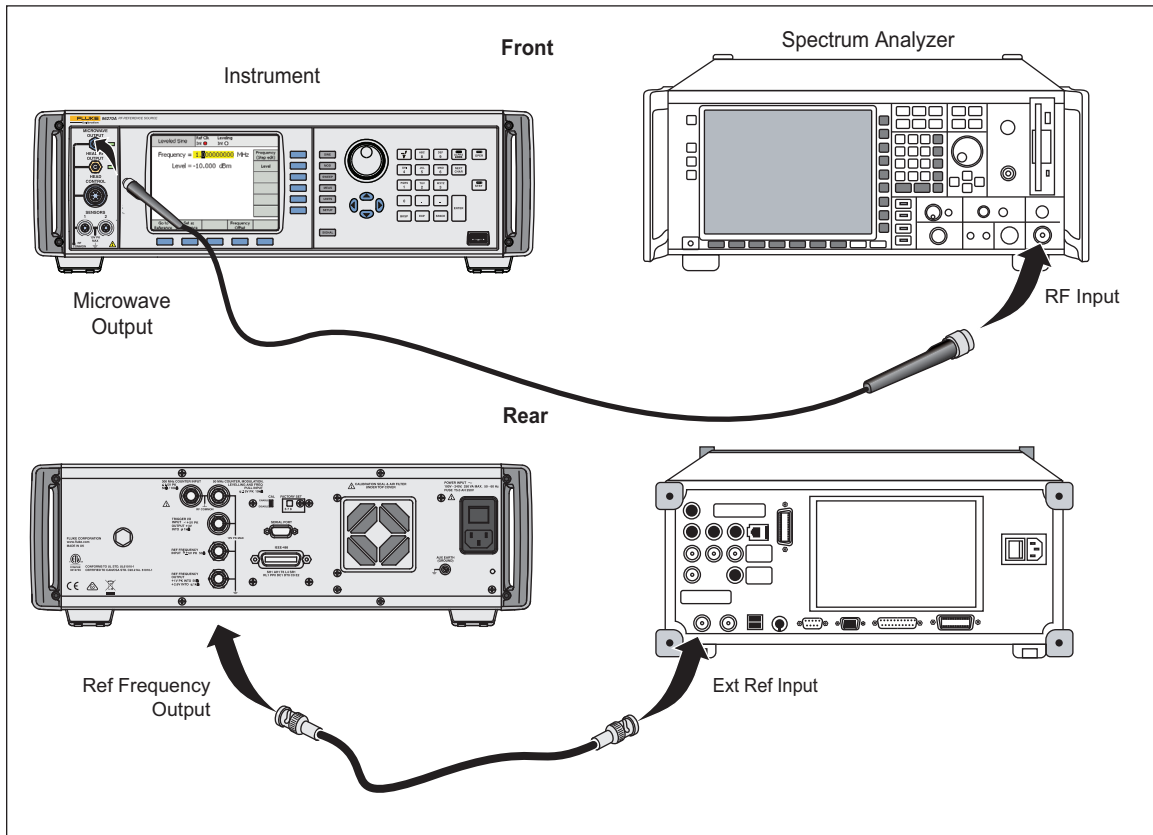

Figure 3-17. Microwave Output Level Accuracy Tests, Low-level Points (Low-level Microwave Output option only)
19. Connect the UUT Microwave Output to the RF INPUT of the Spectrum Analyzer/Measuring Receiver and connect the REF FREQUENCY OUTPUT (rear panel) from the UUT to the Spectrum Analyzer Ext Ref In (on rear). See Figure 3-17 for equipment connections.